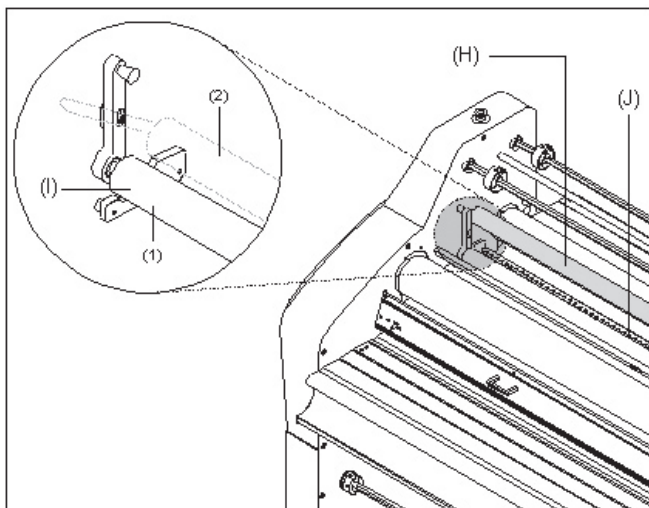

Fig 17
H. IDLER BAR: (Figure 17) The idler bars, located near each heat roller, are used to direct the film to the heat roller nip.
I. CHILL IDLER: (Figure 17) Assist in the cooling process of the web material as it exits the heat rollers.
J. COOLING FANS: (Figure 17) Assist in the cooling process by pushing unheated air onto the web